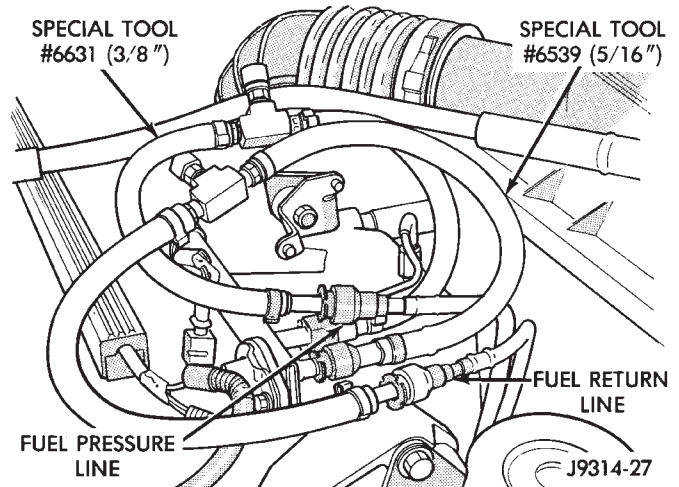

Fig. 16 Adapter Tools—Typical Connections
(4) If the fuel pressure drop is within specifications, the fuel pump outlet check valve and fuel pressure regulator are both operating normally.
(5) If fuel pressure drop is greater than 138 kPa (20 psi), it must be determined if this drop is being caused by (in-tank mounted) fuel pump outlet check valve or fuel pressure regulator. Proceed to next step.
(6) Release the fuel system pressure from fuel system. Refer to the previous Fuel Pressure Release Procedure in this group.
(7) Disconnect both fuel lines at fuel rail near fuel pressure regulator.
(8) Connect Fuel Line Pressure Test Adapter Tool number 6631 (3/8 in.) between the disconnected fuel supply line and fuel rail (Fig. 16).
(9) Connect Fuel Line Pressure Test Adapter Tool number 6539 (5/16 in.) between the disconnected fuel return line and fuel rail (Fig. 16).
(10) Start engine. Observe and record fuel system pressure.
(11) Shut engine off.
(12) Clamp off the rubber hose portion of adapter tool number 6539 connected to the fuel return line. Allow engine to set for 30 minutes. If pressure has dropped more than 138 kPa (20 psi) in 30 minutes, pressure is bleeding past the (in-tank mounted) fuel pump outlet check valve. Replace Fuel Pump Module assembly. Refer to Fuel Pump Module removal and installation in this group. If pressure drop is within specifications, proceed to next step.
(13) Clamp off the rubber hose portion of adapter tool number 6631 connected to the fuel supply line. Allow engine to set for 30 minutes. If pressure has dropped more than 138 kPa (20 psi) in 30 minutes,